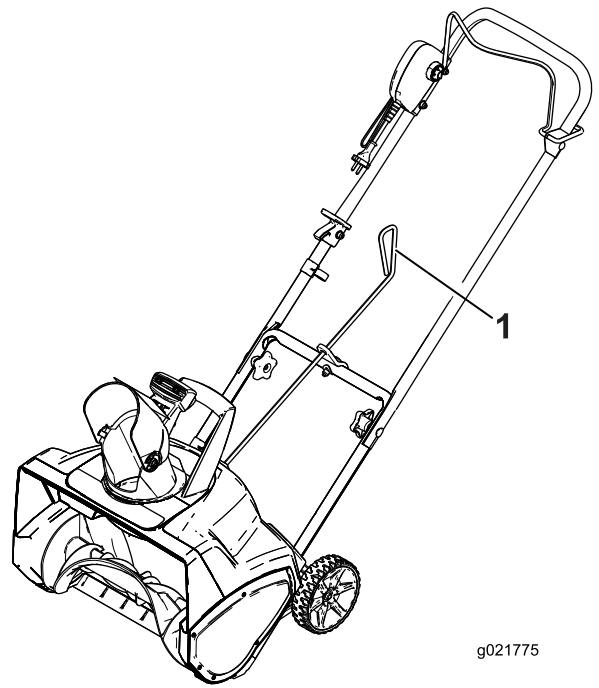

**Figure 5**
3. Remove the decal that covers the keyed hole in the back of the housing (Figure 5).